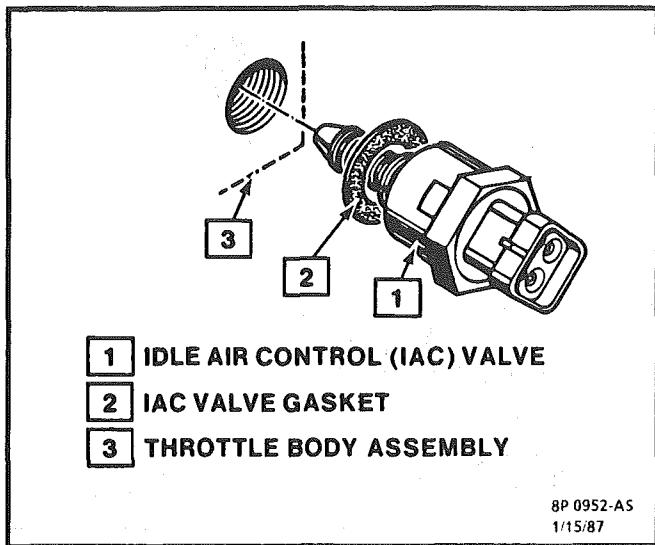

Figure C2-16 - Thread-Type IAC Valve
**IDLE AIR CONTROL (IAC) VALVE Replacement (Figure C2-16)**